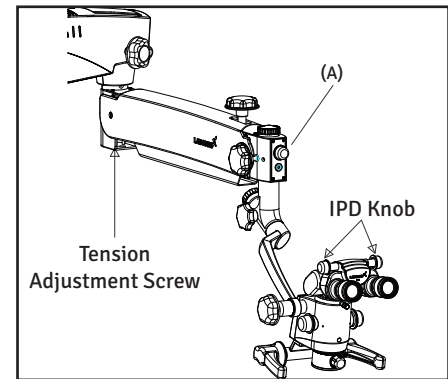

Fig 13
2. Tension in the up and down motion of the microscope is preset at the factory. However, the user can adjust the force required to move the microscope up and down by turning the Tension Adjustment Screw (see Fig. 13) clockwise or counterclockwise using an 8 mm allen wrench. Refer to section 14 for more details.
5. The illumination is controlled through the intensity control knob (see A in Fig. 13). Rotate it clockwise or counterclockwise to achieve the desired illumination level.